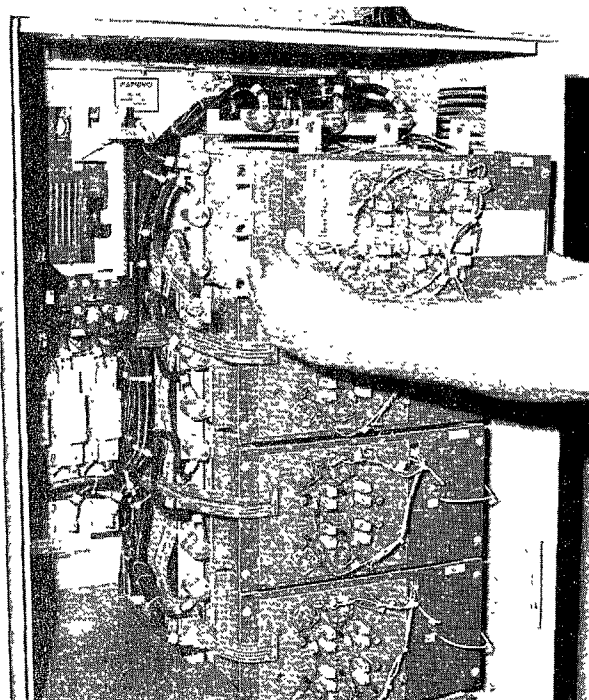

FIGURE 10
5. Remove the nine (9) nuts and washers from the power connectors:
6. Carefully pull module out of the rack using the red plastic insulation cover in front of the module. (See Figure 10).